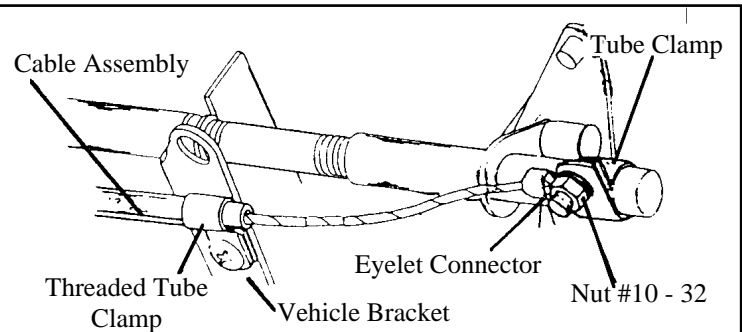

FIGURE 14
4. **Figure 14** is an example of a Ford Throttle connection using the **Tube Clamp**.